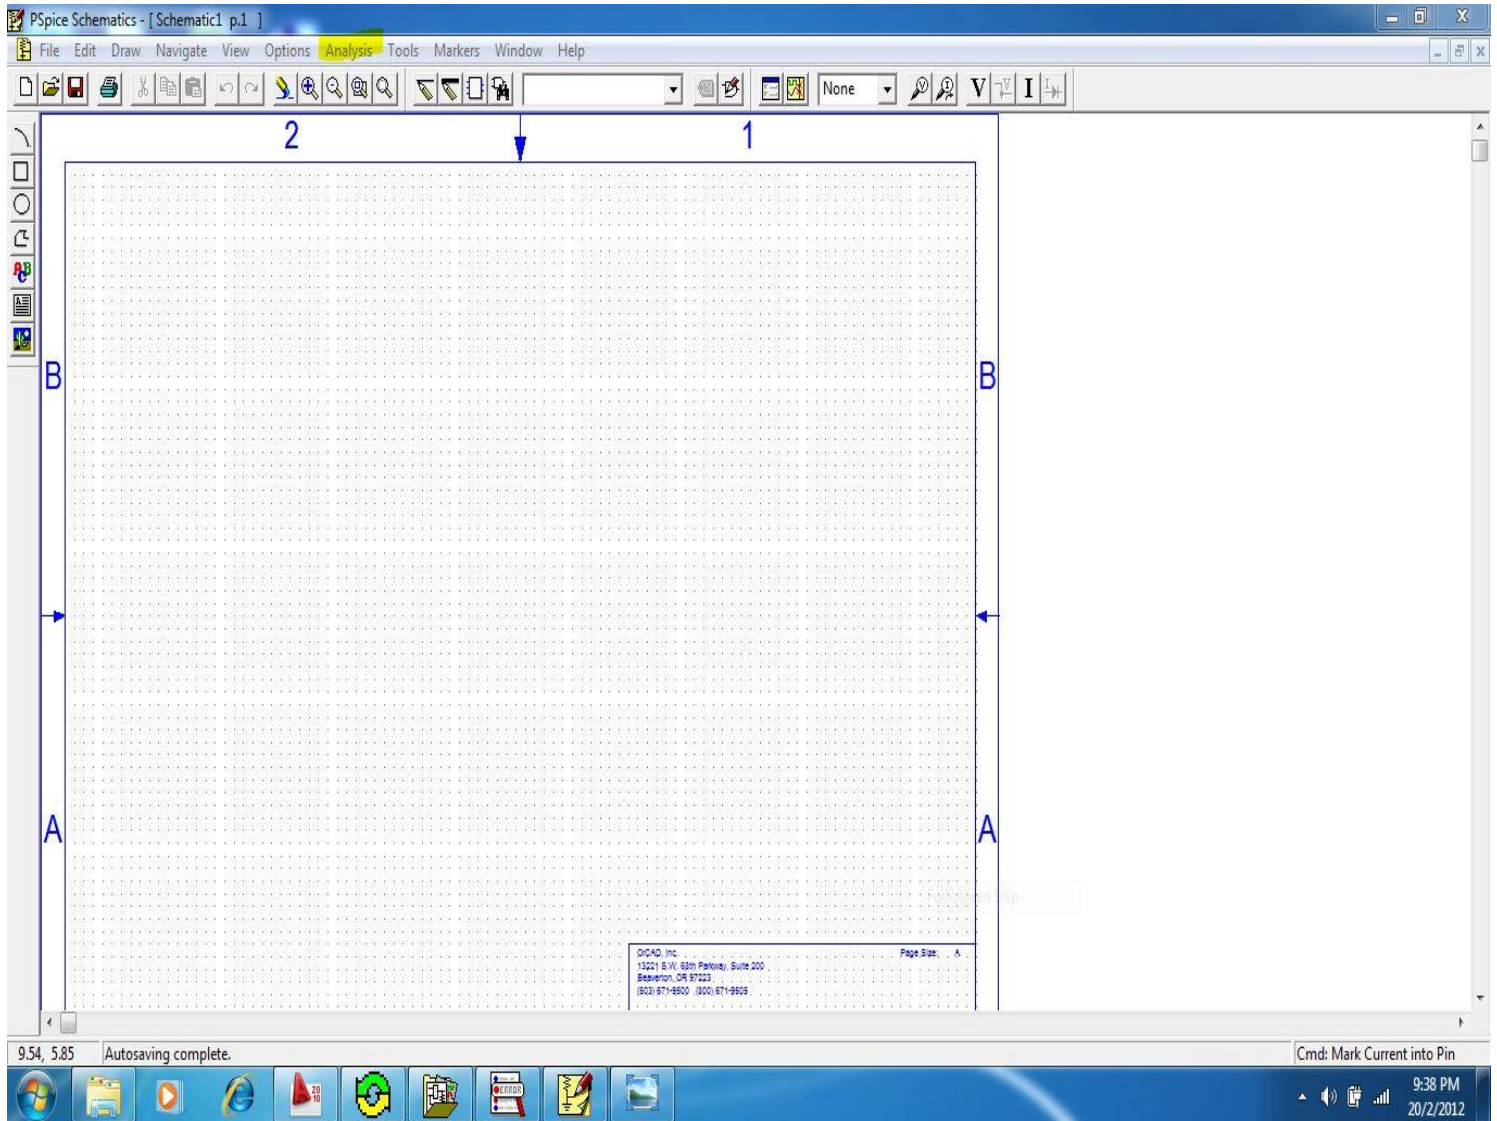
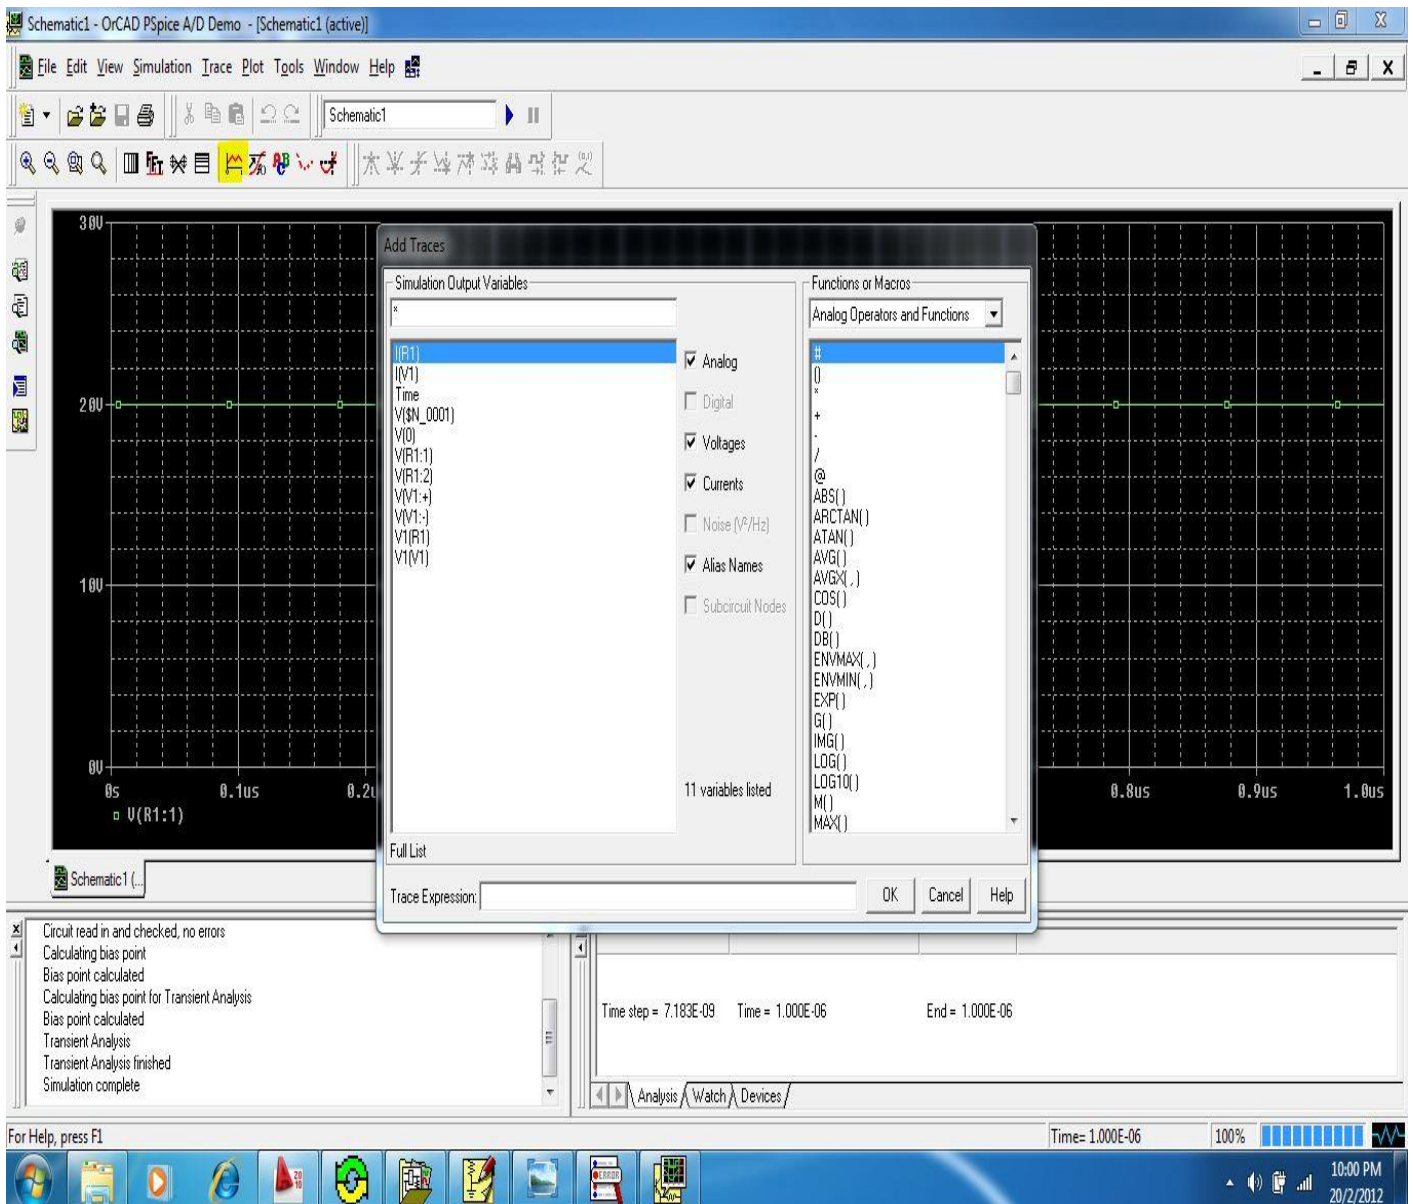

Figure-3
Figure-13
6. The Figure-3 highlighted the **Analysis** button by yellow color, in **Analysis** button you have
15. The Figure-13 shows us probe, probe can be obtained by going in Analysis button as shown in step-6, Figure-3 we will then get a window showing an empty waveform screen, The highlighted yellow color in Figure-13 shows you a button, which when pressed it we will get waveform option for a value of the circuit elements for example a waveform of current flowing through the Resistor R1 or say a voltage across some element in the circuit. Select the output variable and then press **ok**, we have all other options as you can see on the screen.